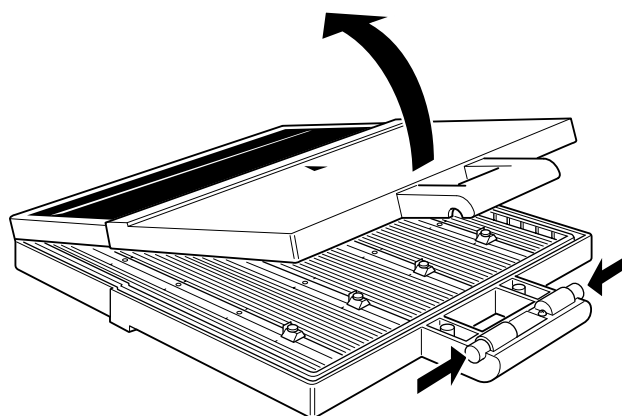

Figure 7 - Opening the universal magazine
1. Open the universal magazine by pushing the two black buttons on both sides of the handle simultaneously to unlock the cover (fig. 7).